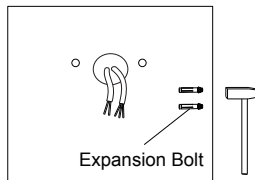

Figure 15
Step 2: Knock the expansion bolts into the wall.(Figure 15)